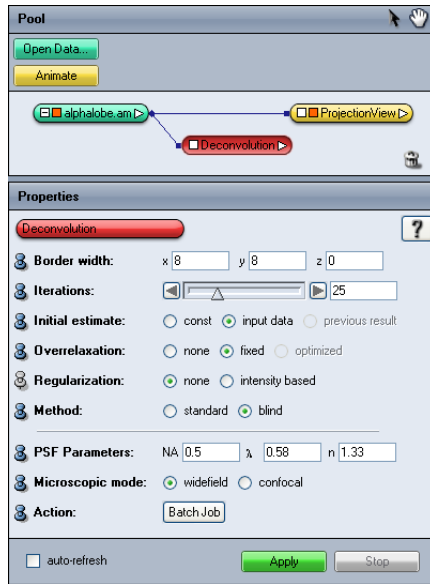

Figure 1.5: Parameters for blind deconvolution.
- Adjust the parameters like shown in Figure 1.5.